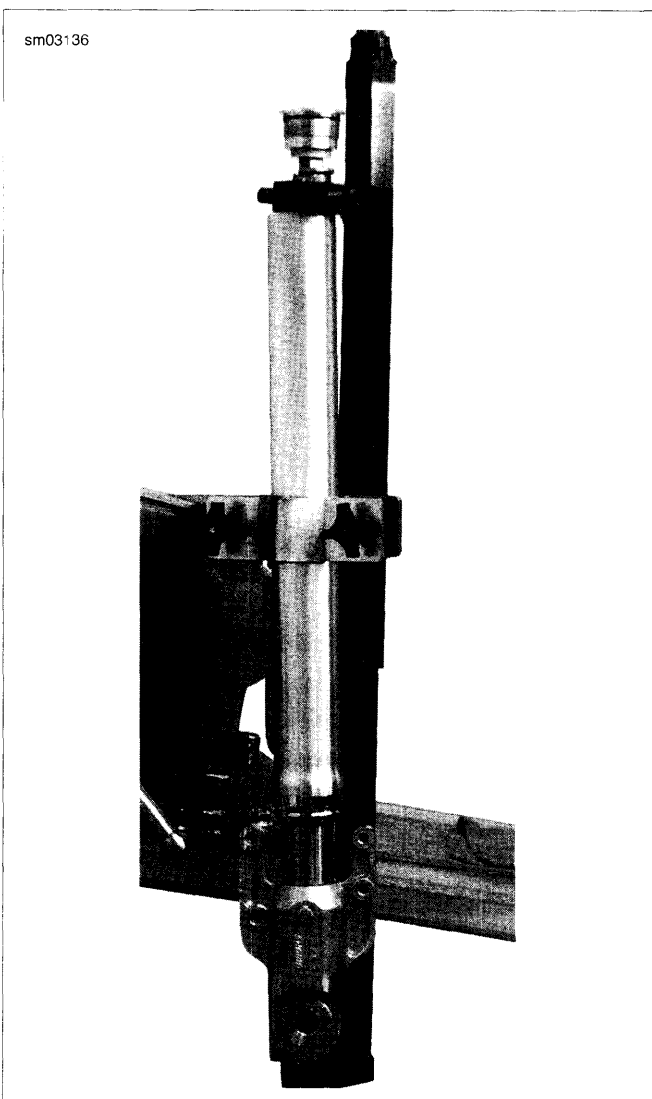

**Figure 2-145. Clamp Fork and Remove Fork Cap**
1. See Figure 2-145. Using FORK HOLDING TOOL (Part No. HD-41177), mount fork assembly in vise.